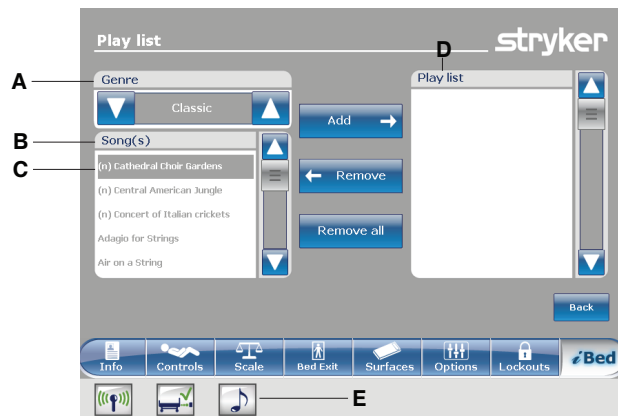

Figure 116: Play list
Tap the up and down arrows to select a genre (A) (Figure 116 on page 103).
Tap the up and down arrows to scroll through the available songs in the **Song(s)** area (B) (Figure 116 on page 103).
**Note:** The song that is currently selected is highlighted in gray (C) (Figure 116 on page 103).
Tap **Add** to add a song from the **Song(s)** area (B) to the **Play list** area (D) (Figure 116 on page 103).
Tap **Remove** to remove a song from the **Play list** area (D) to the **Song(s)** area (B) (Figure 116 on page 103).
Tap **Remove all** to remove all songs from the **Play list** area (D) to the **Song(s)** area (B) (Figure 116 on page 103).
**Note:** A music note icon appears at the bottom of the touch screen when music is playing (E) (Figure 116 on page 103).
To return to the **Sound therapy** screen, tap **Back** (Figure 116 on page 103).